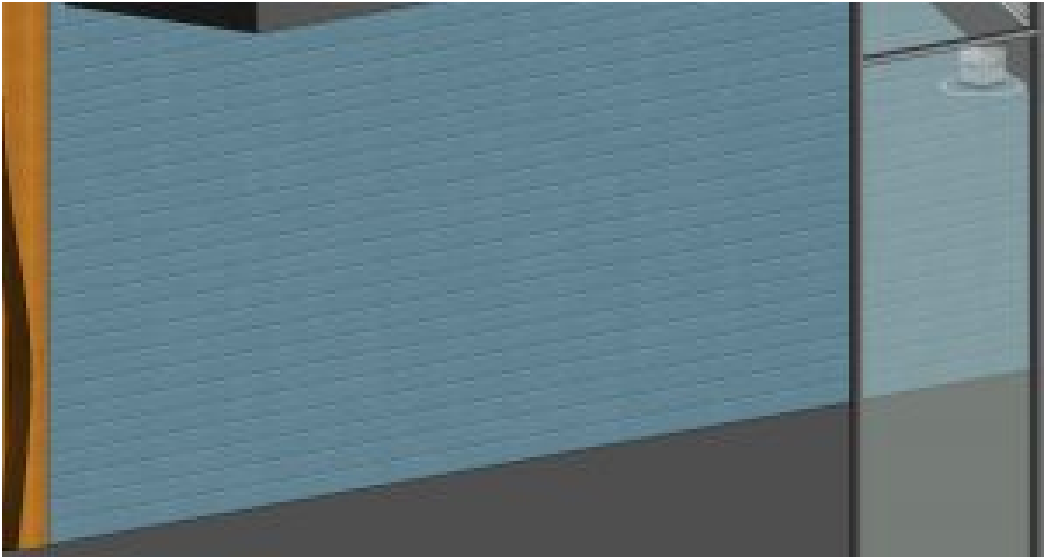

Figure 9.4 Metal Panel material applied to an existing wall
1. Open the 3D view, select the wall on the first floor that separates the foyer from the offices as shown in Figure 9.4